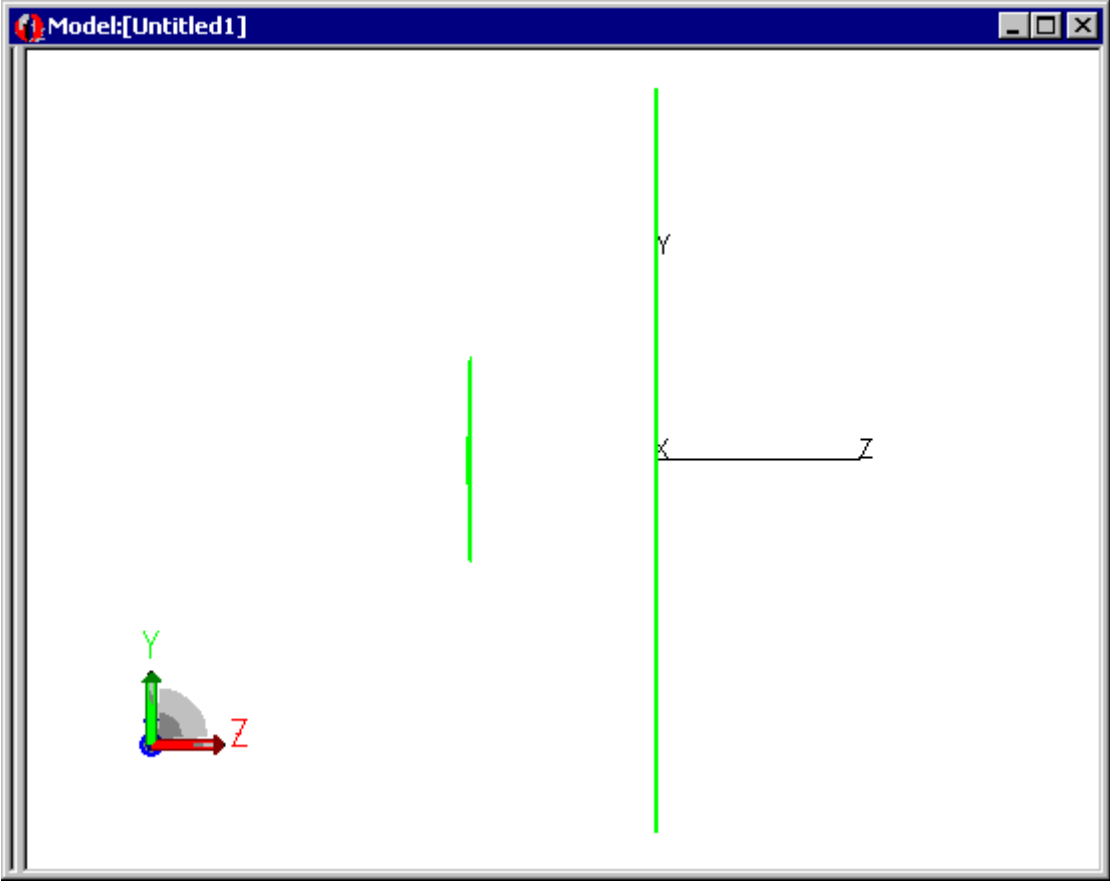

FIGURE 9.24 - The Model Window Display at the Current Step of the Example
- c. Select the end surface of the cylinder that is located at $z=0$. In the **Apply Properties** dialog, select the *Diffraction tab*, check the check box, and press Apply. At this point, the model should look like the figure shown in Figure 9.24.